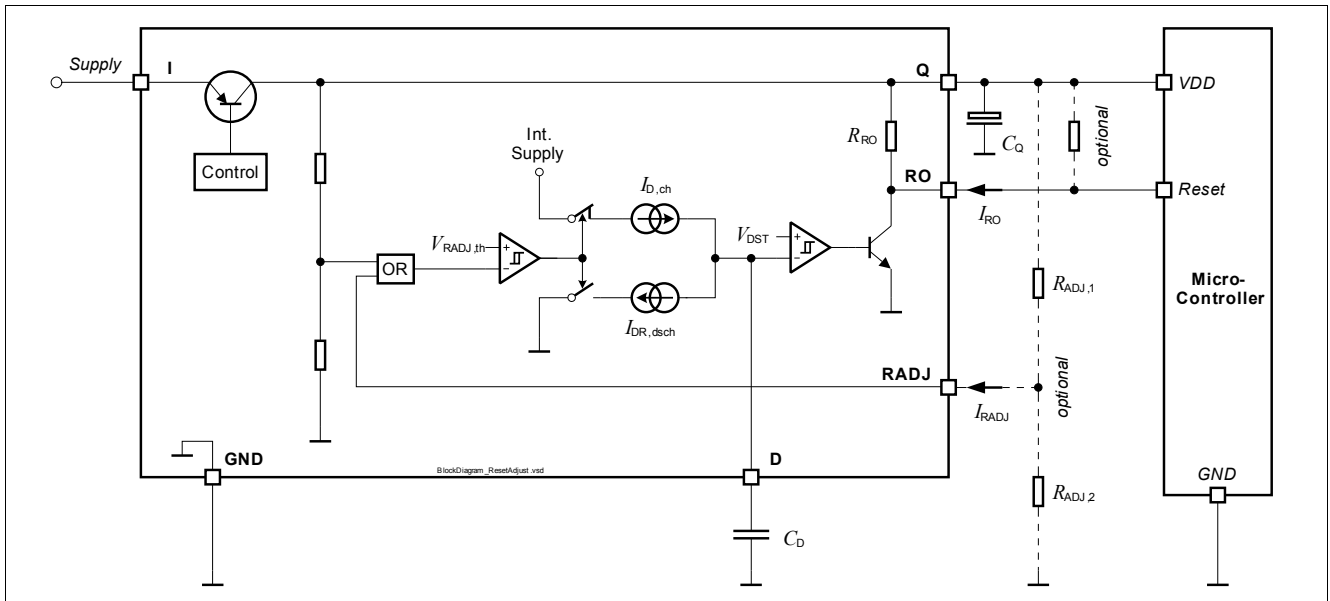

Figure 6 Block Diagram Reset Circuit
- $R_{ADJ,1}$, $R_{ADJ,2}$: Resistors of the external voltage divider, see Figure 6.
all voltages with respect to ground, direction of currents as shown in Figure 6 (unless otherwise specified).
all voltages with respect to ground, direction of currents as shown in **Figure 6** (unless otherwise specified).